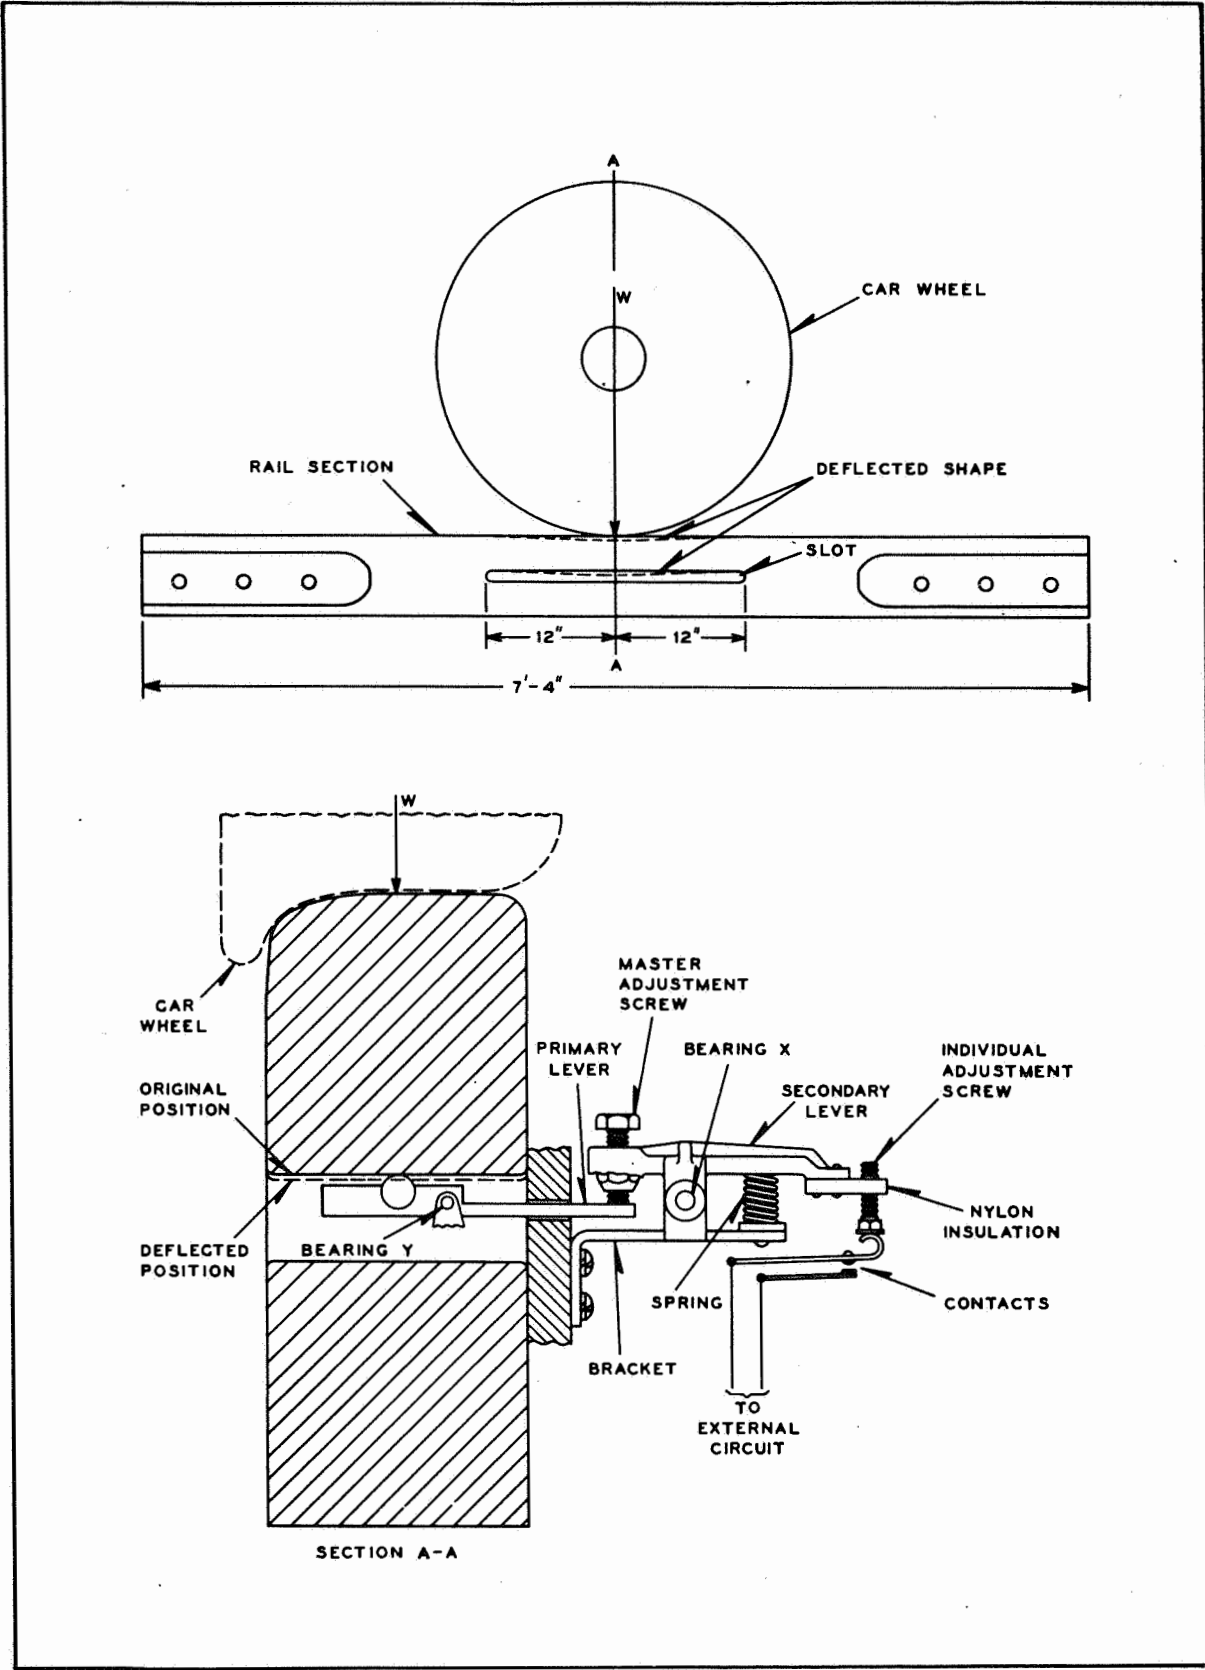

Figure 1. Weigh Rail Schematic Operation
The multiplication mechanism consists of two levers, a support bracket and four contact actuating screws (see Figure 1). Its purpose is to multiply rail deflection caused by the weight of the car wheel and indicate this weight by operating the proper contact.
As shown in figure 1, the weigh rail has a horizontal milled slot at its midpoint. As a car wheel passes over the rail section, the rail portion above the slot deflects in relation to the lower rail section. Maximum deflection occurs when the wheel is at the center of the slot where the lever mechanism is located. The deflection of the rail section above the slot is directly proportional to the weight of the passing car.
- a. Two (2) O-rings, UJ67134 (17" inner diameter x .139" cross-section).
- a. Remove and discard side plate O-rings (item 28).
- e. Apply a few drops of instrument oil (UA41099) to primary lever bearing Y (see figure 1).